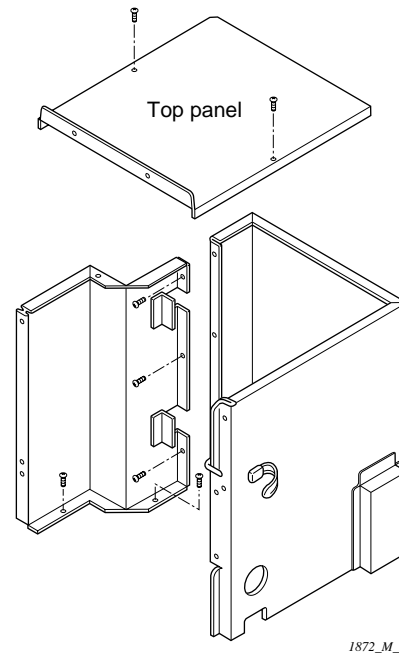

Fig. 5
(1) Replacing the compressor (Ref. Fig. 5, 6)